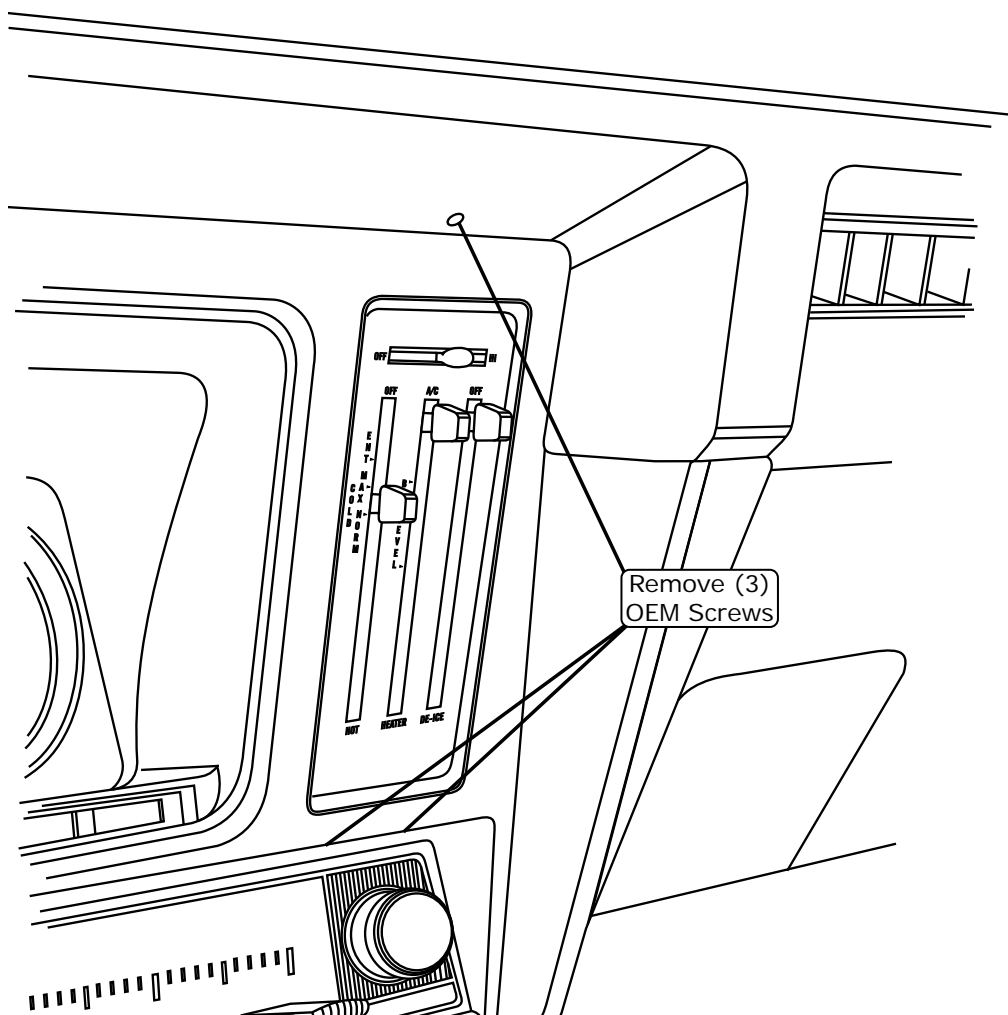

Figure 1
1. Remove (3) OEM screws from the instrument panel (See Figure 1, below).